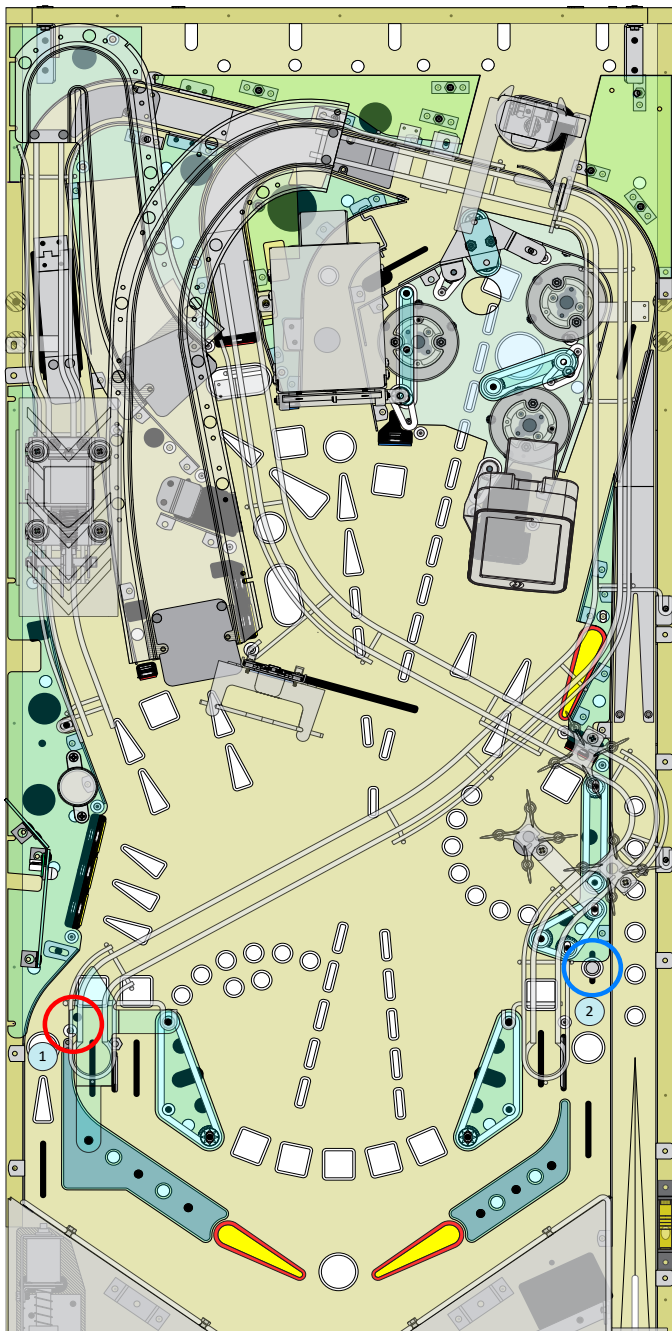

Figure E4. Dialed In playfield adjustable posts.
**1)** The steel mini post near the left outlane (circled in red in figure E4) can be repositioned (or removed altogether) to make the game play more or less liberally/conservatively. There are two pre-drilled mounting holes in the playfield. The most liberal post position is the highest (furthest from the player) of the two holes (making it more difficult for the ball to get to the left outlane). When the post is moved closer to the inlane/outlane divider, the game will play more conservatively (making it easier for the ball to get to the left outlane). The most conservative adjustment is to remove the post altogether. See the mini post removal or installation instructions below. No plugs are necessary for the unused hole(s) in the playfield.
**2)** The dual rubber, steel adjusting post near the right outlane (circled in blue in figure E4) can be repositioned (or removed altogether) to make the game play more or less liberally/conservatively. There is a mounting slot routed in the playfield. The most liberal post position is the lowest (closest to the player) in the slot (making it more difficult for the ball to get to the right outlane). As the adjusting post is moved further from the player, the game will play more conservatively (making it easier for the ball to get to the right outlane). The most conservative adjustment is to remove the post altogether. See the adjusting post repositioning/removal or installation instructions below.